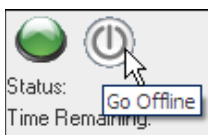

Figure 9—Online
- **Online**—indicated by a green sphere (see Figure 9). Clicking the purple button will send the printer offline.